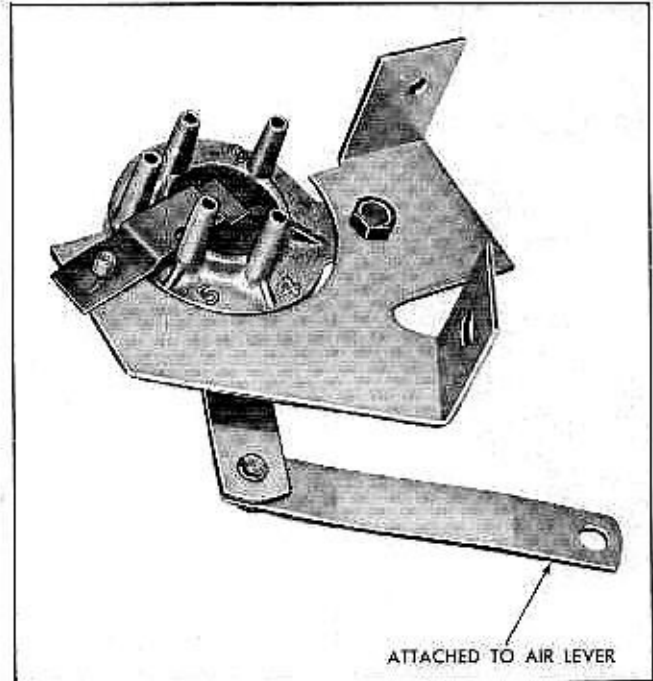

Fig. 2-21 Vacuum Switch for Direct-Aire Heater when used with Circ-L-Aire Conditioning
**NOTE:** On cars with Circ-L-Aire Conditioning a vacuum switch Fig. 2-21 is attached to the Direct-Aire heater control panel assembly as shown in Fig. 2-22.